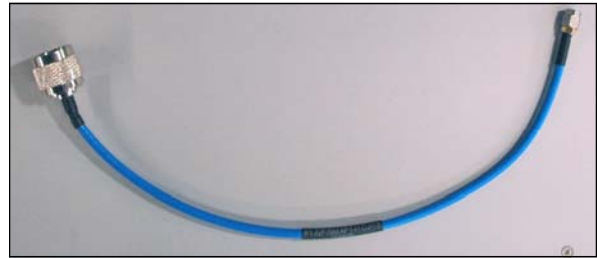

Figure 5-3: Cable EHW00028
Cable EHW00028 is a 13" flexible coaxial cable with a Type-N (M) connector on one end and an SMA (M) connector on the other. This cable connects between the Channel 2 module's IF port and the lower right SMA (F) connector of the Channel 1 fault relay. See **Figure 5-3**.